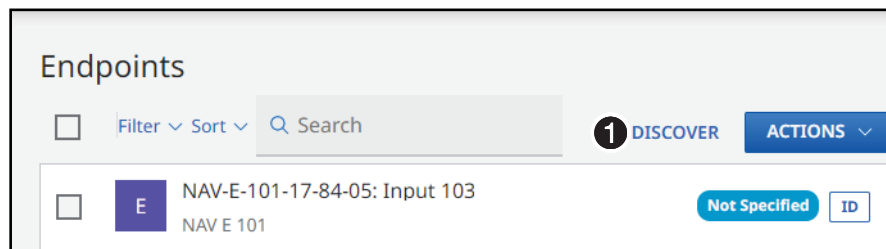

Figure 25. Appearance of Endpoints Page when Adding to Existing Endpoints
NOTE: If you are adding to an existing set of assigned endpoints, at this point the endpoints page shows the existing endpoints and you click the **Discover** link instead (see figure 25, ❶).